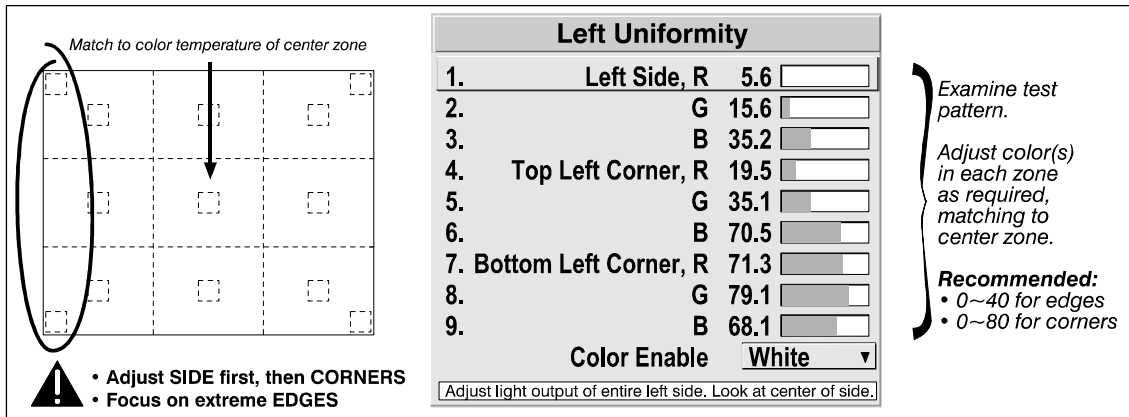

Figure 3-43 Match Zones to Center Color Temperature
- Return to the **Brightness Uniformity** menu. Beginning with the screen that exhibits the most obvious color shift(s), for each edge that exhibits a noticeably different color temperature from the center, select the corresponding **Uniformity** adjustment menu (Left, Right, Top or Bottom). For example, if any part of the left side is too blue, too red or too green, adjust the colors in the **Left Uniformity** menu (i.e., change their light output) until all portions of the left side closely match the center color temperature. Adjust an edge first (focusing on its center), and then adjust its corners. See Figure 3-43.